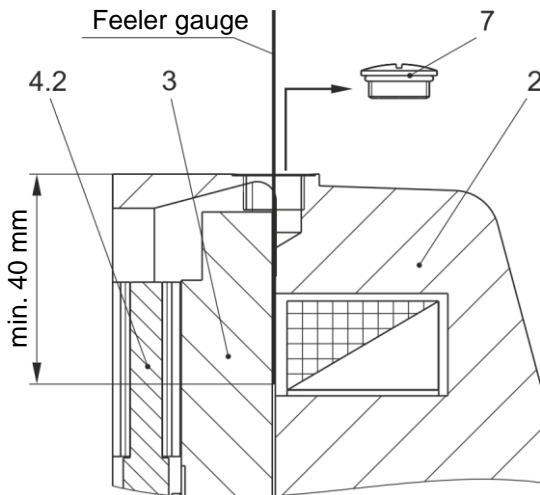

Fig. 7
The air gap can be inspected via a feeler gauge after removing the screw plug (7). The feeler gauge must be inserted at least 40 mm deep (see Fig. 7), so that the distance between the armature disk (3) and the coil carrier (2) can be measured.